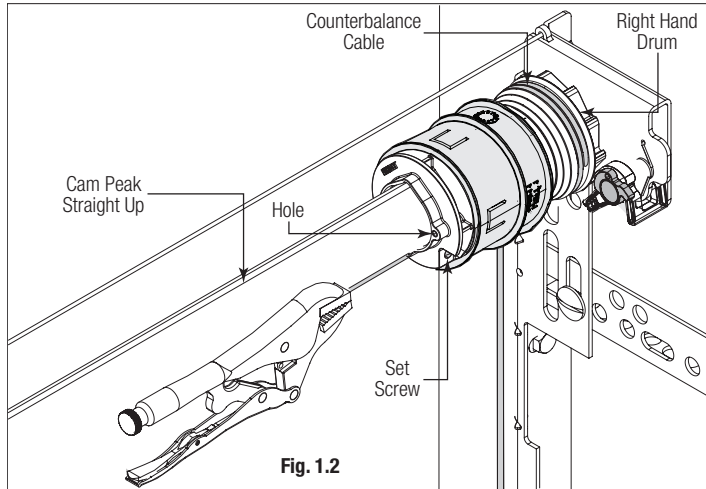

Fig. 1.2
**STEP 2:** If there is spring tension and starting with the right hand side, ensure ratchet pawl knob is in upper position, as shown in Fig. 1.2.